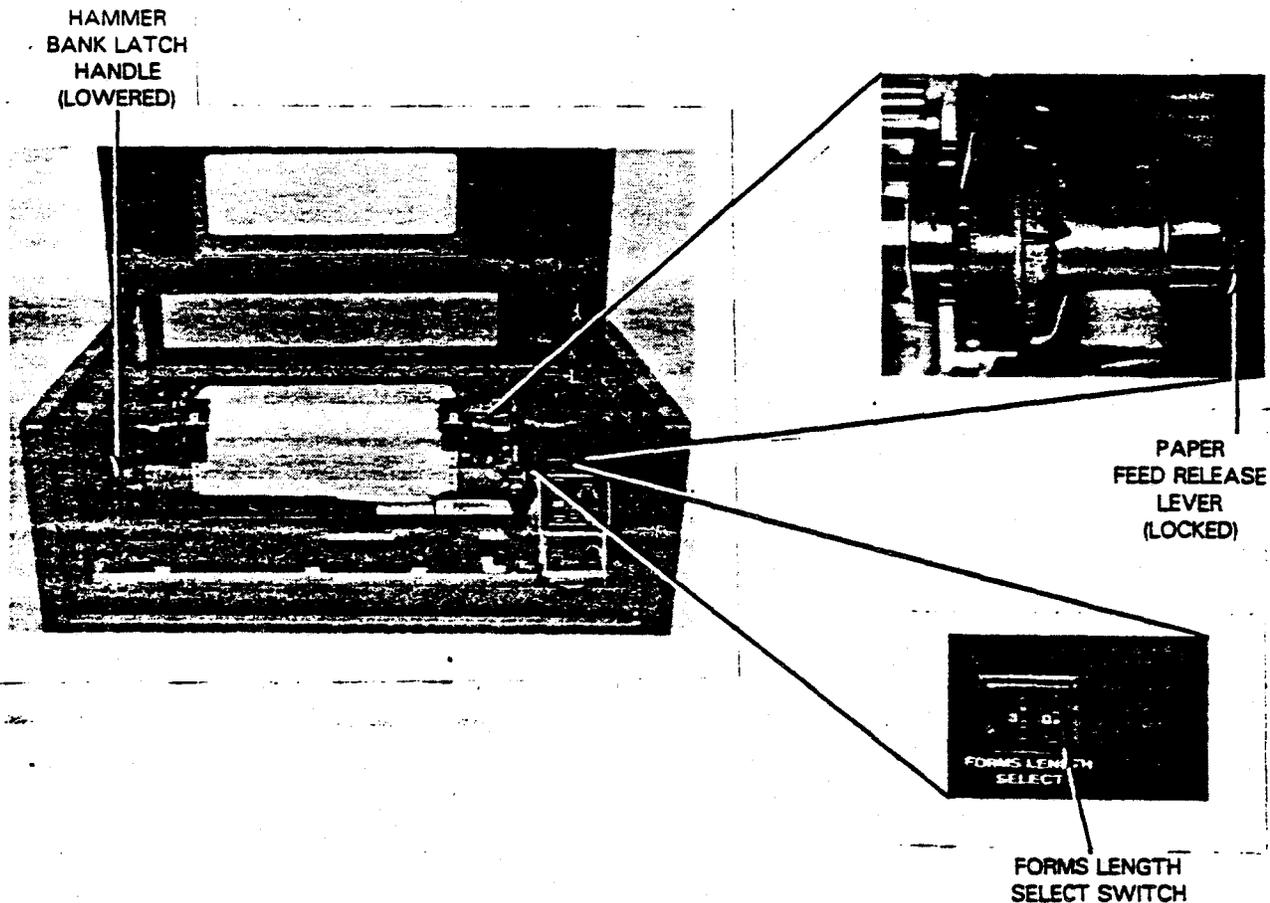

Figure 4-9. Completing the Forms Installation
21. Lower the hammer bank latch handle (Figure 4-9) and be certain it is locked in position.